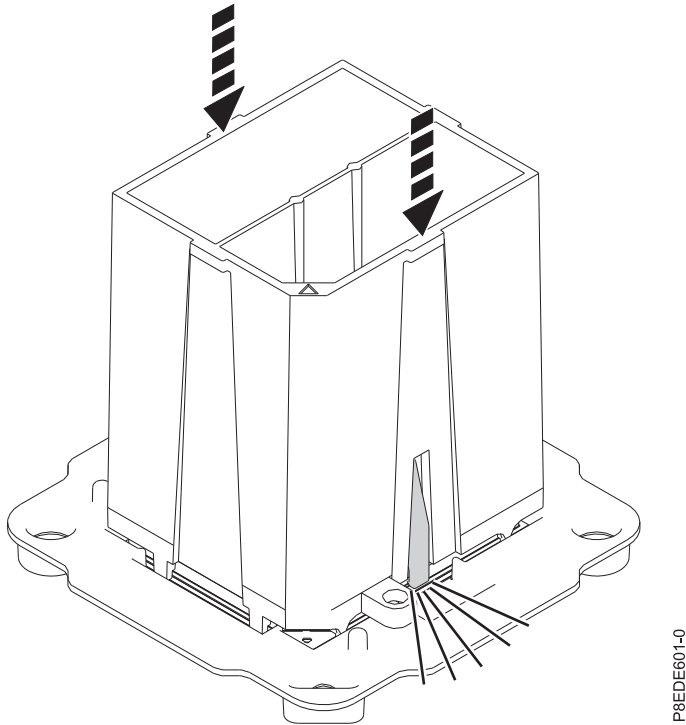

Figure 13. Locking the replacement system processor module in the removal tool
4. Push down on the tool at the locations that are indicated by the arrows to lock the system processor module into the removal tool. See Figure 13 on page 15. Do not press the blue release tabs until directed to do so later.